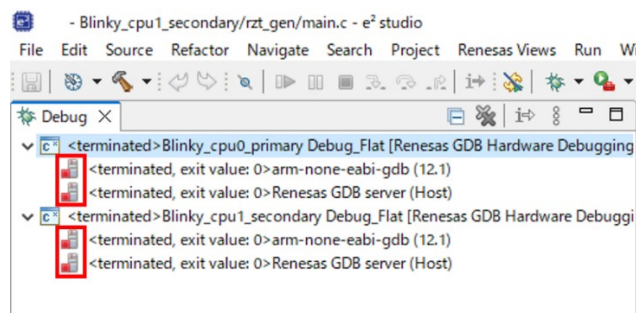

**Figure 35 Warning Window of Device Name**
4. When Figure 35 is shown, please click **Yes** to proceed the launch.